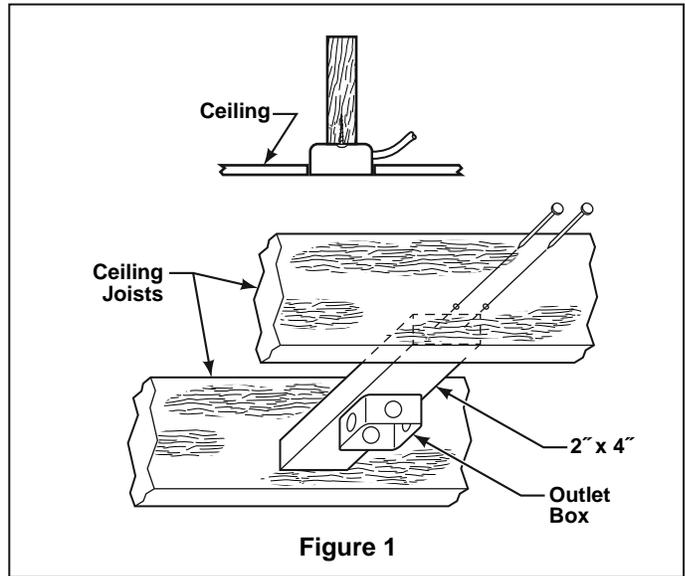

Figure 1
**NOTE:** If you are uncertain of part description, refer to exploded view illustration. (Figure 1, page 11)
Your new ceiling fan will require a grounded electrical supply line of 220 volts AC, 50 Hz circuit. The outlet box must be securely anchored and capable of withstanding a load of at least 50 lbs. **Figure 1** depicts different structural configurations that may be used for mounting the outlet box.
1. Remove the Hanger Ball by loosening the setscrew in the Hanger Ball until the ball falls freely down the Downrod. (Figure 1) Remove the Pin from the Downrod, then remove the Hanger Ball. Retain the Pin and Hanger Ball for reinstallation in Step 5.